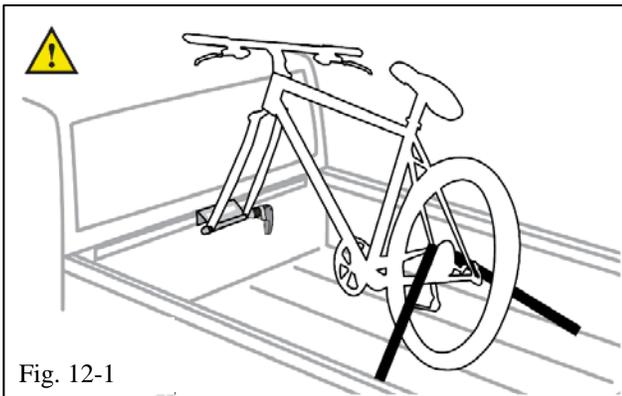

Fig. 12-1
- (a) Use a strap or line to secure the wheel to the truck bed (tie-down not included in kit) (Fig. 12-1).